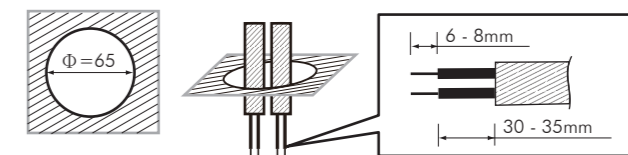

FIG.6
3.4.1.1 To install detector, please drill a hole in diameter of 65mm on ceiling board and keep the power cable outside. Please strip off 6 - 8mm of cable sheathing for wiring (See FIG.6).